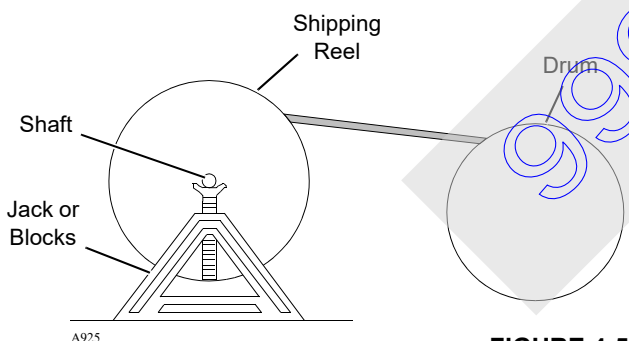

FIGURE 4-51
1. Mount wire rope shipping reel on a shaft supported at both ends by jacks or blocks as shown in Figure 4-51.